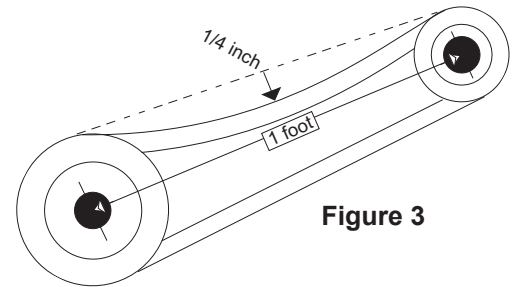

Figure 3
2. Adjust the motor plate until proper tension is reached. For proper tension, a deflection of approximately 1/4" per foot of center distance should be obtained by firmly pressing the belt. Refer to Figure 3.